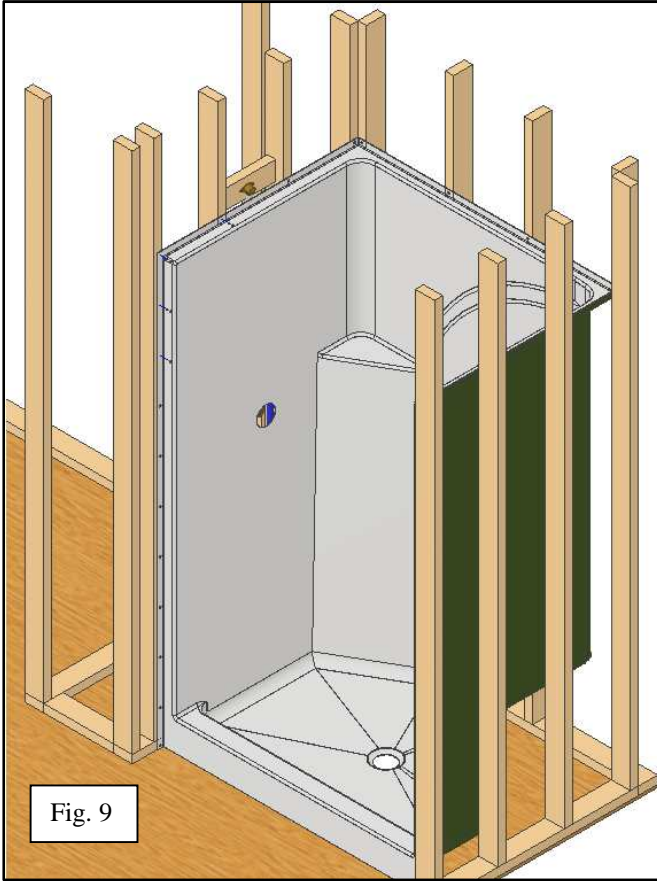

Fig. 9
- 7) While unit is level, start securing the top flange to studs. It is recommended that holes be pre-drilled. Then install screws all along the front vertical flanges on 8" centers. Use #8 x 1" pan head screws. (Fig. 9, 10, & 11)